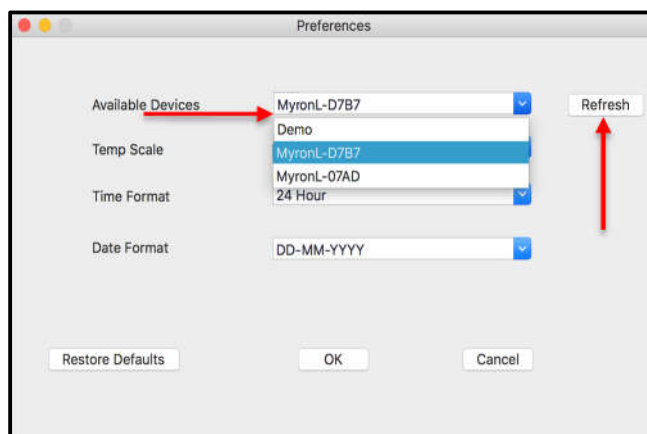

Figure 25
- 2) Select the Available Devices drop down menu (Figure 25).